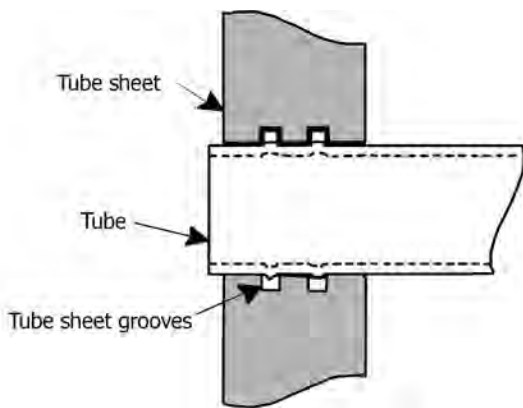

FIGURE 10.9 Grooves are made in the tube sheet for increased jointing between tube and tube sheet.
- Tube ends are expanded onto thick tube sheets by the use of rollers or pneumatic or hydraulic pressure for a length of two tube diameters, or 50 mm or tube sheet thickness minus 3 mm. Holes are drilled in the tube sheets, which can be machined with one or more grooves for increased joint strength, for inserting tube ends (Figure 10.9).
- Tube holes are typically drilled in the tube sheet and then reamed and can be machined with one or more grooves. This greatly increases the strength of the tube joint (Figure 10.9).